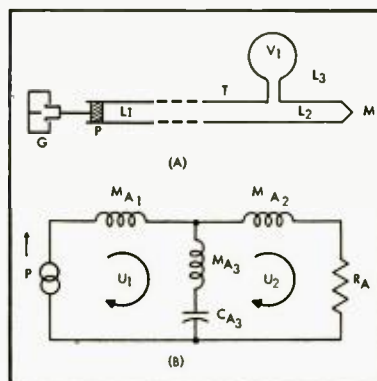

Fig. 4. (A) Elements of the acoustic system, and (B) the equivalent circuit.
The diagram of (A) in Fig. 4 shows the elements of an acoustical system which approximate those of the acoustic earset closely coupled to the ear.
The impedance type analogous circuit is shown at (B) in Fig. 4.